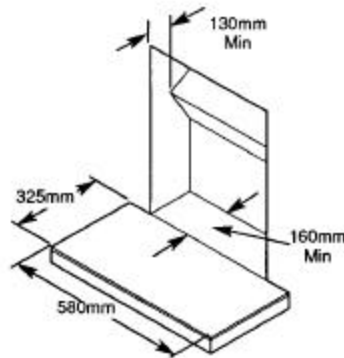

Fig. 3
2. A conventional brick or stone chimney must have minimum effective cross-sectional dimension of 225mm x 225mm (9 in x 9 in) or be a lined flue of minimum diameter 125mm (5 in). The liner should be terminated at the top of the builders opening and sealed from the chimney. The minimum depth is shown in Fig. 3. If necessary remove either the knee or the whole chairbrick.